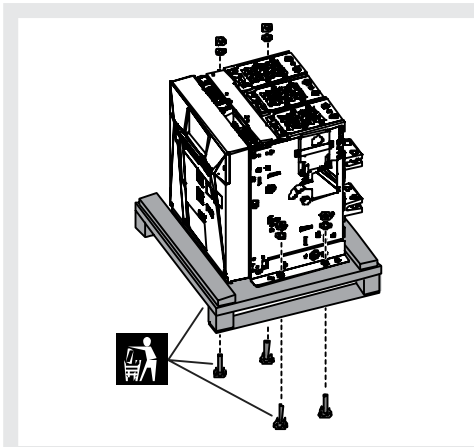
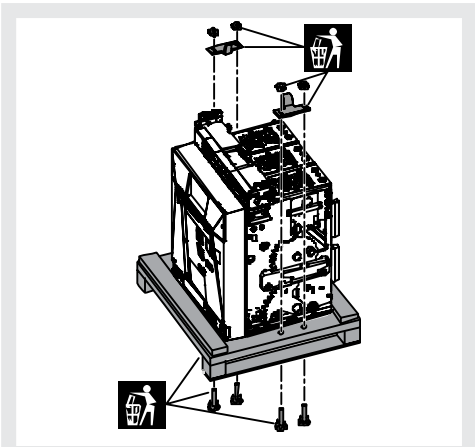
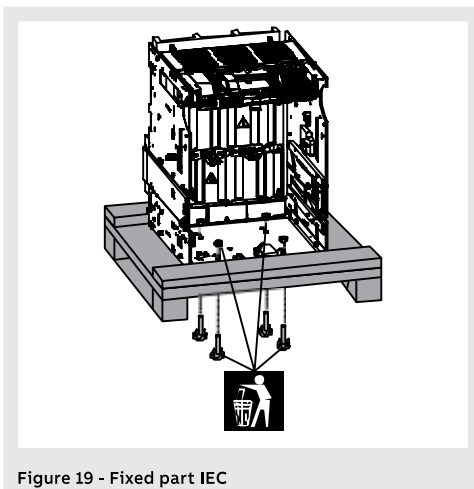

Figure 17 - Fixed circuit-breaker
Figure 18 - Moving part IEC
Figure 19 - Fixed part IEC
4. Take out the screws (see Figure 17 - Fixed circuit-breaker). Take out the screws and the mounting brackets (see Figure 18 - Moving part IEC, Figure 19 - Fixed part IEC).